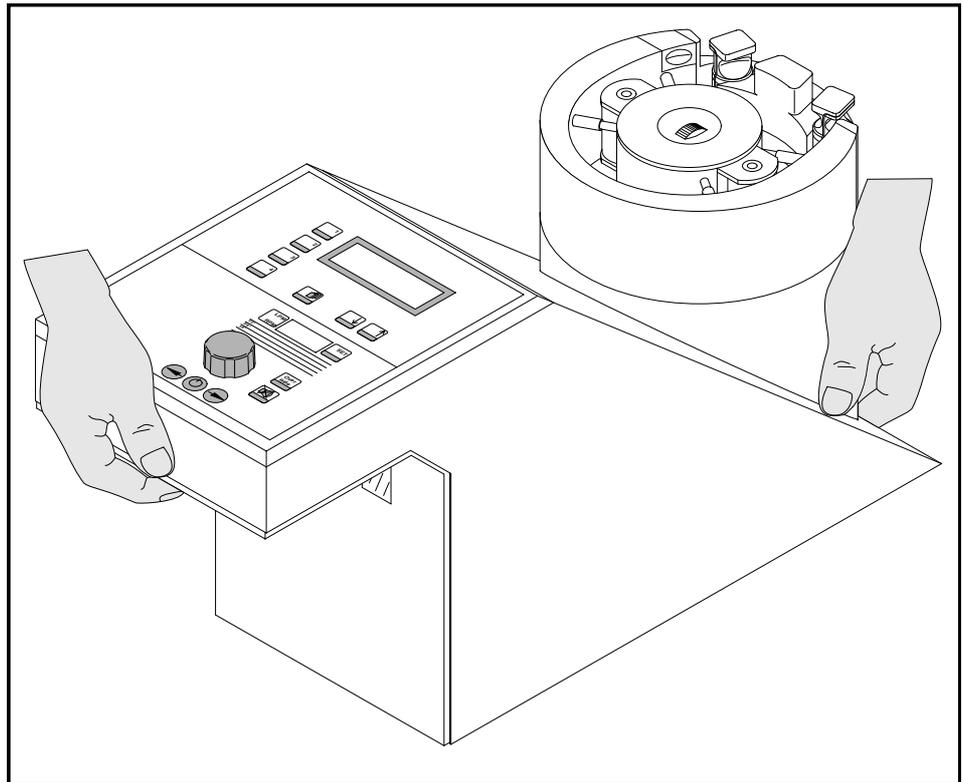

Fig. 14 Pump: Lifting
- Lift pump as shown in Fig. 14 (do not lift at pump head) and put it onto the pins of a free position on the pump table. Make sure that the pump is not put onto the pump cable and ensure that the cable runs correctly in the guides.